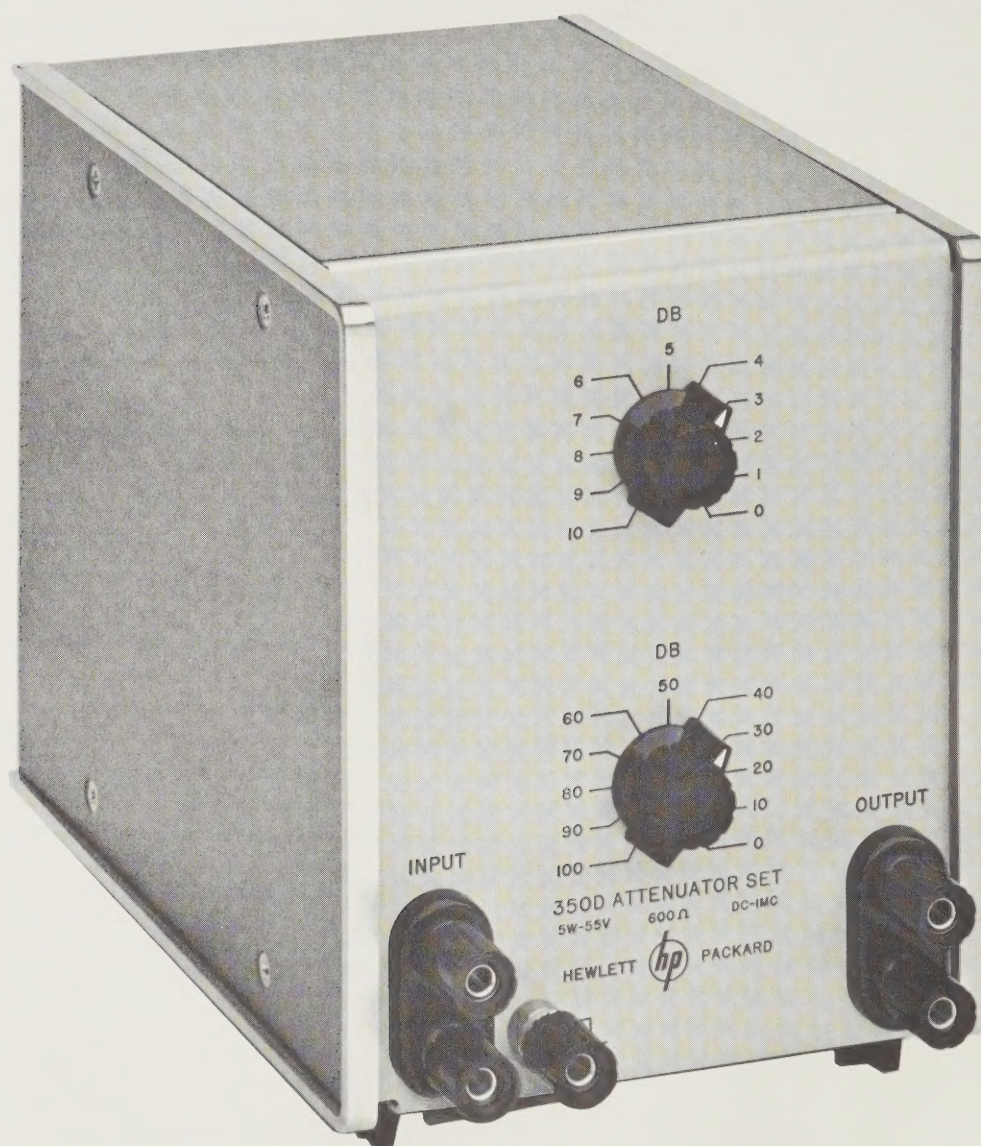

Figure 1-1. Model 350D Attenuator Set
1-5. The Model 350C/D (Model 350D shown in figure 1-1) is an accurate, wide frequency range attenuator which provides attenuation from 0 db to a maximum of 110 db. Specifications for both instruments are given in table 1-1. The Model 350C/D will dissipate a maximum of 5 watts in continuous use with good accuracy from dc to 1 Mc. Each Model 350C/D consists of two sections: (1) 100 db adjustable in 10 db-steps, and (2) 10 db, adjustable in 1-db steps. The two sections are additive, allowing attenuation in 1-db or 10-db increments over the full 110-db range. A floating input is included which isolates the attenuator circuit ground from cabinet ground, allowing an ac input to be at a dc level.